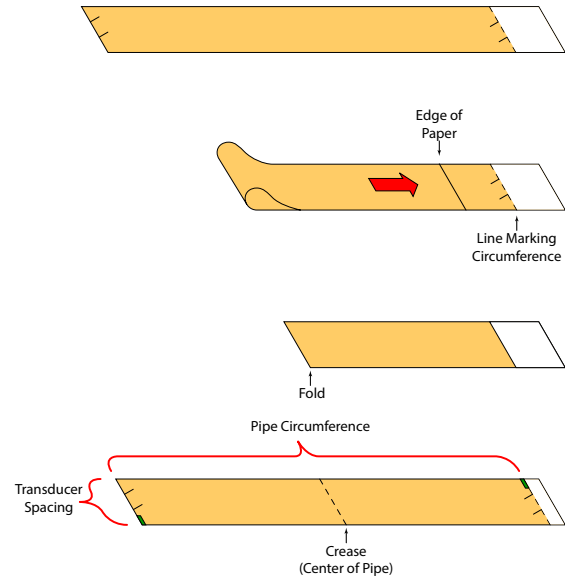

Figure 19: Bisecting the pipe circumference
2. Mark the intersection of the two ends of the paper to indicate the circumference. Remove the template and spread it out on a flat surface. Fold the template in half, bisecting the circumference. See *Figure 19*.